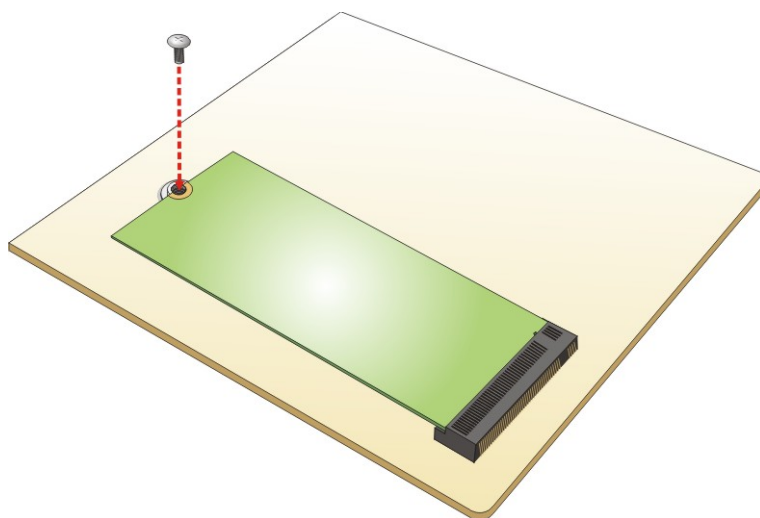

Figure 3-10: Securing the M.2 Module
Step 4: Secure the M.2 module with the previously removed retention screw (Figure 3-10).